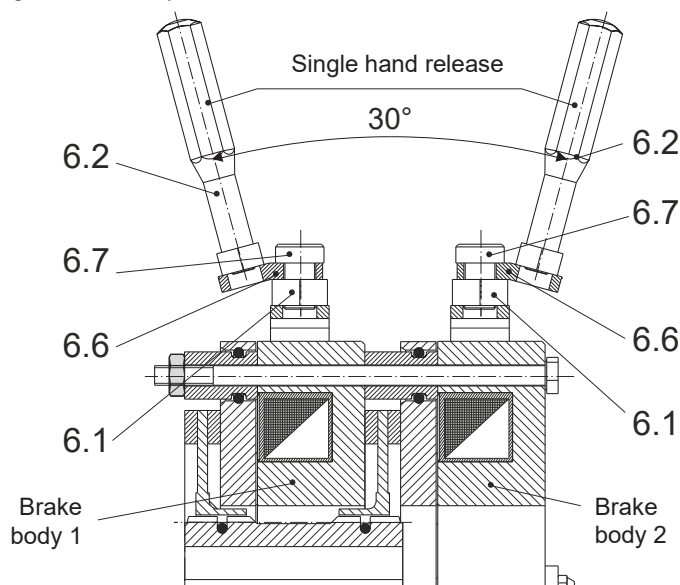

Fig. 8
1. Screw the bracket (6.6) with the cap screw (6.7) into the switch bracket (6.1) vertical to the switch bracket (6.1) as shown in Fig. 8, and secure it using Loctite 243. Please observe the tightening torque acc. Table 6!
4. Insert the screws (6.3) with the mounted thrust springs (6.4) through the coil carrier (3) into the bores on the armature disk (4).